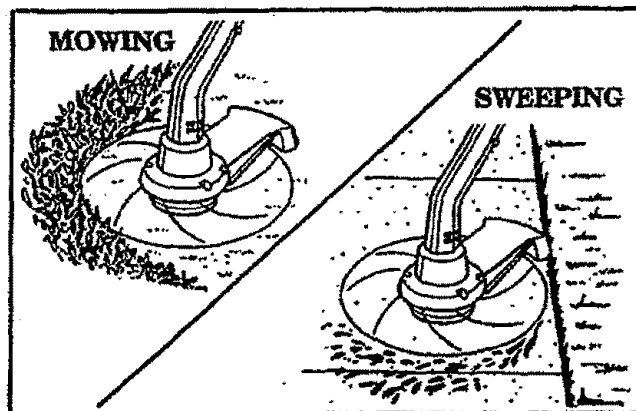

Figure 8
3. **MOWING** - Figure 8. Your trimmer is ideal for mowing in places conventional lawn mowers cannot reach. In the mowing position, keep the line parallel to the ground. Avoid pressing the head into the ground as this can scalp the ground and damage the unit.
4. **SWEEPING** - Figure 8. The fanning action of the rotating line can be used for a quick and easy clean up. Keep the line parallel to and above the surfaces being swept and move the unit from side to side.